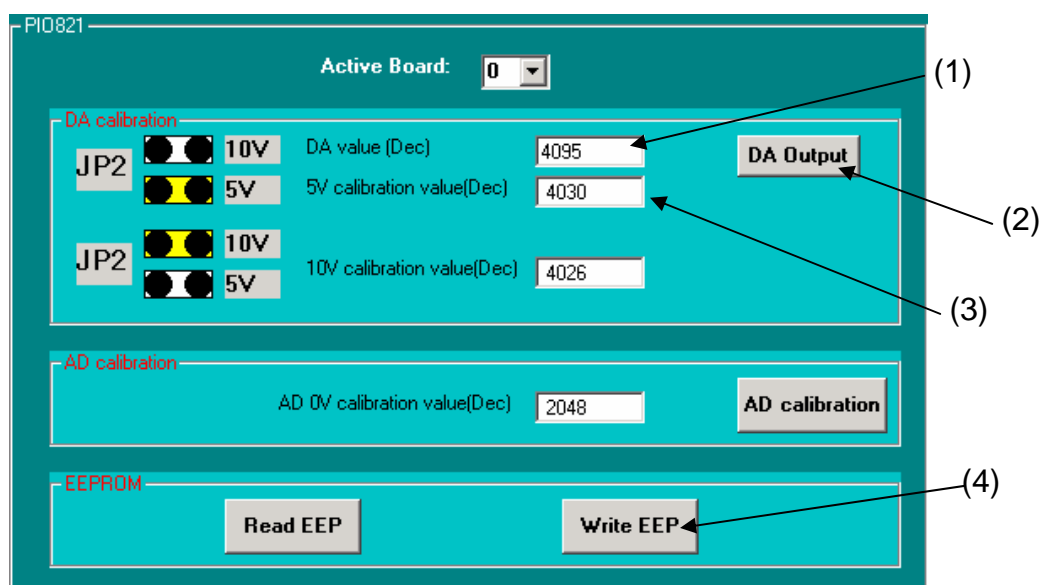

Figure 3.2.
- Step 3. If you want to calibrate the DA, for example, then let the “DA value” be set at 4095, as shown in Figure 3.2 (1).
- Step 4. Click the “DA Output” button and then use particular multi-meter to measure the analog output, as shown in Figure 3.2 (2).
to change the output value (for example: 4093, 4092,...) and change the output voltage until its value is equal to the allowed maximum voltage output value, as shown in Figure 3.2(3).
- Step 6. If the analog output is equal to the maximum allowed analog output level, please key in the calibration value to “5V calibration value” in the textbox and Click the “Write EEP” button. The DA calibration process is finished for the setting range of analog output. It is shown in Figure 3.2 (4).